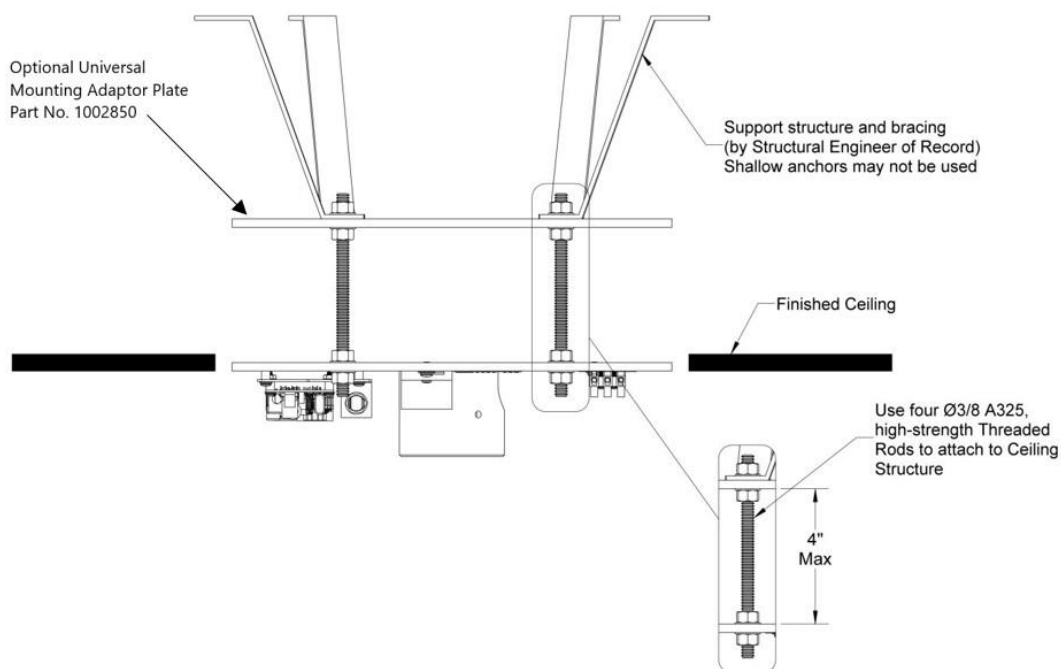

Figure 3: Recommended Ceiling Structure Construction
- Mount the Ceiling casting to the ceiling structure using four $\frac{3}{8}$ " Dia. Grade-8 bolts with nuts and washers as shown in Figure 3.